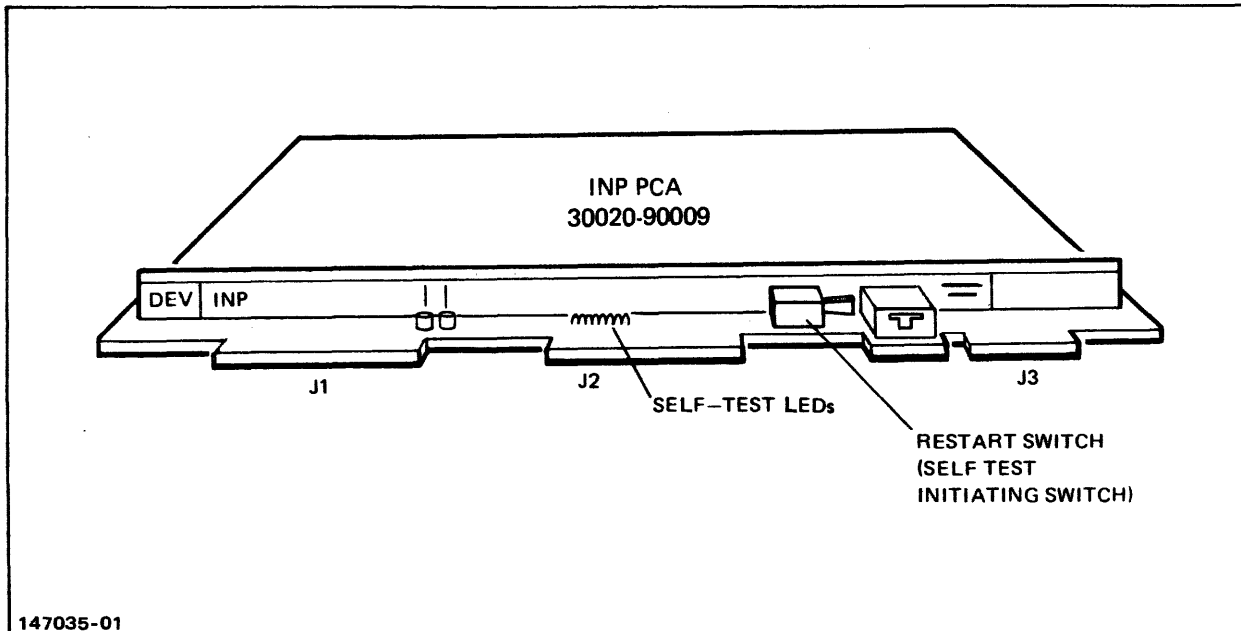

Figure 2-5. Self-test Switch and LED Indicators
- c. Press the chrome, spring-loaded RESTART switch on the edge of the INP PCA board (figure 2-5) to manually initiate the self test.
- d. Watch the self-test light-emitting-diode (LED) indicators (figure 2-5) as the self-test program goes through its cycle. Upon completion of the self test (approximately 2 seconds in duration), the LEDs will stop blinking and will display a steady pattern. If the two LEDs at each end (0 and 7) are lighted while all the others are off, the INP is working properly. If any other pattern of lighted LEDs is being displayed, the INP is malfunctioning.